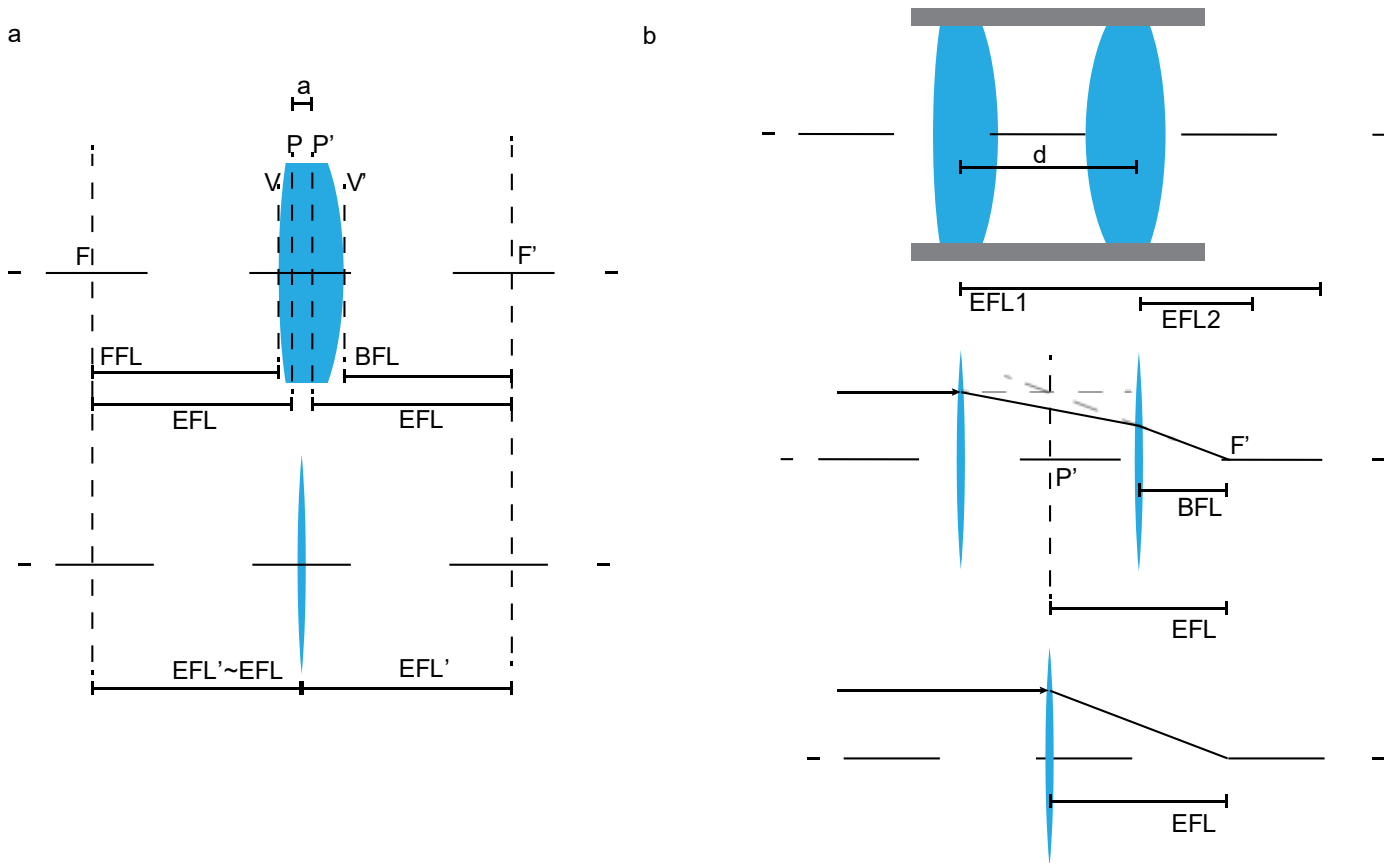

Fig 1. Thin lens approximation of a thick lens (a). Single thin lens approximation of two thick lenses (b).
*lens, and effective, back and focal length are the same, and equal to EFL of thick lenses corrected by half of the thickness (EFL' on fig 1). Typically, the thickness can be disregarded if  $EFL \gg \text{thickness}$ .*